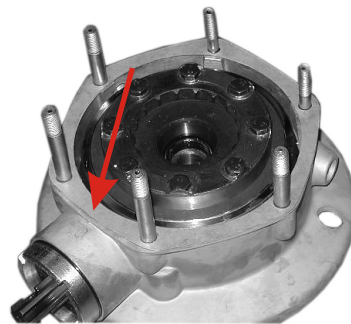

Fig. 88
- Set shims onto the final drive case studs (Fig. 88)